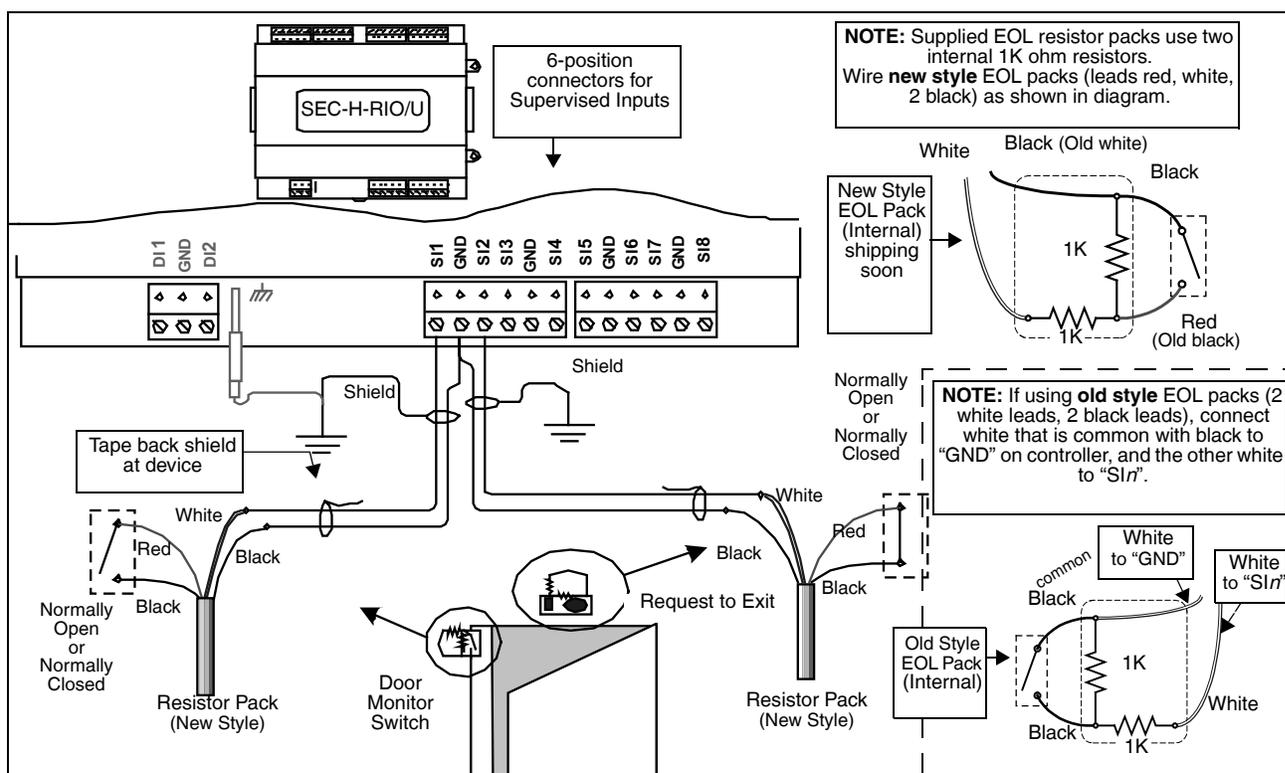

Fig. 5. Supervised input wiring to SEC-H-RIO/U module.
The SEC-H-RIO/U module has eight (8) supervised inputs, on two 6-position connectors (see Fig. 5). Terminals are labeled SI1, GND, SI2, SI3, GND, SI4 and so on. This means when wiring, *two* conductors are typically landed to each GND terminal.
Each supervised input can monitor dry contacts, either normally-open (N.O.) or normally-closed (N.C.). One End-of-Line Resistor Pack is required at the monitored contacts for each input for proper operation. Fig. 5 shows wiring of supervised inputs SI1 and SI2 used for monitoring door position and request-to-exit.
- New style (shipping soon): One red, one white, two black leads. Wire as shown in Fig. 5.
- Old style: Two white, two black leads. Wire black leads across contacts, and wire the white lead shown internally connected to the black lead (common) to the "GND" input, and the other white lead to the "SI n " input. See the detail in lower right of Fig. 5.
Depending on **new** or **old style** EOL resistor pack, wire the EOL leads by color. See Fig. 5, page 9.